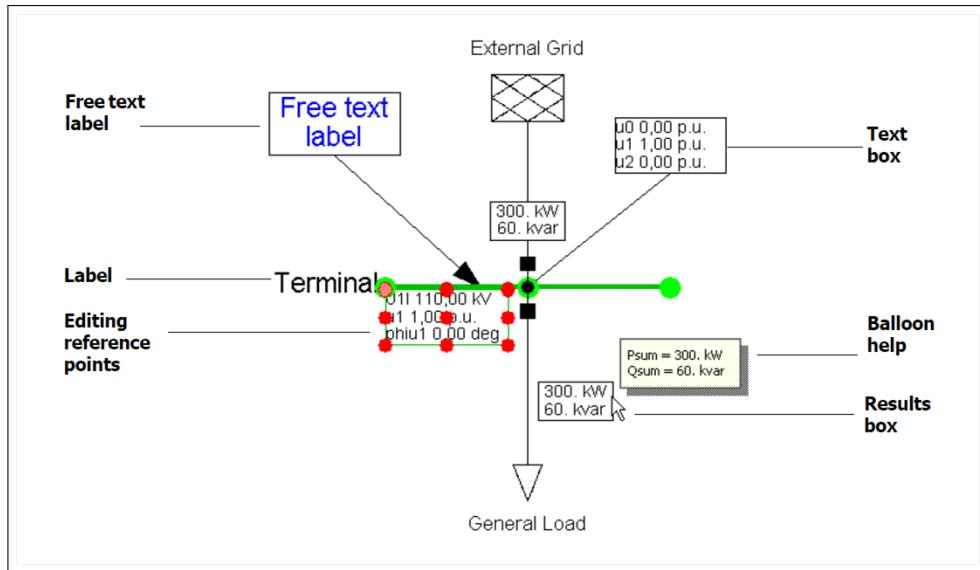

Figure 9.5.1: Results boxes, text boxes, and labels available in *PowerFactory*
*PowerFactory* uses result boxes, text boxes, and labels in the single sine diagram to display calculation results and other useful information. Figure 9.5.1 illustrates an example of this.
Although the result boxes in the single line graphic are a very versatile and powerful way for displaying calculation results, it is often not possible to display a large (part of a) power system without making the result boxes too small to be read. *PowerFactory* solves this problem by offering balloon help on the result boxes. Positioning the mouse over a result box will pop up a yellow text balloon with the text displayed in a fixed size font. This is depicted in figure 9.5.1. The result box balloon always states the name of the variable, and may thus also be used as a legend.
A result box is connected to the graphical object for which it displays the results by a “reference point”. Figure 9.5.1 shows the default reference points for the result box of a terminal. A reference point is a connection between a point on the result box (which has 9 optional points), and one of the “docking” points of the graphical object. The terminal has three docking points: on the left, in the middle and on the right. The reference point can be changed by: